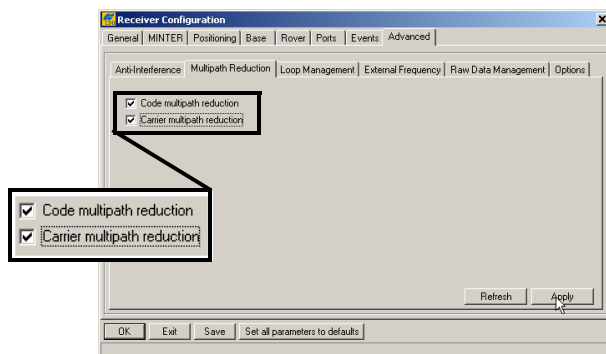

Figure 3-28. Configure Multipath Parameters
12. Click the *Advanced* tab and then the *Multipath* tab. Set the following parameters, and click **Apply** (Figure 3-28 on page 3-34).